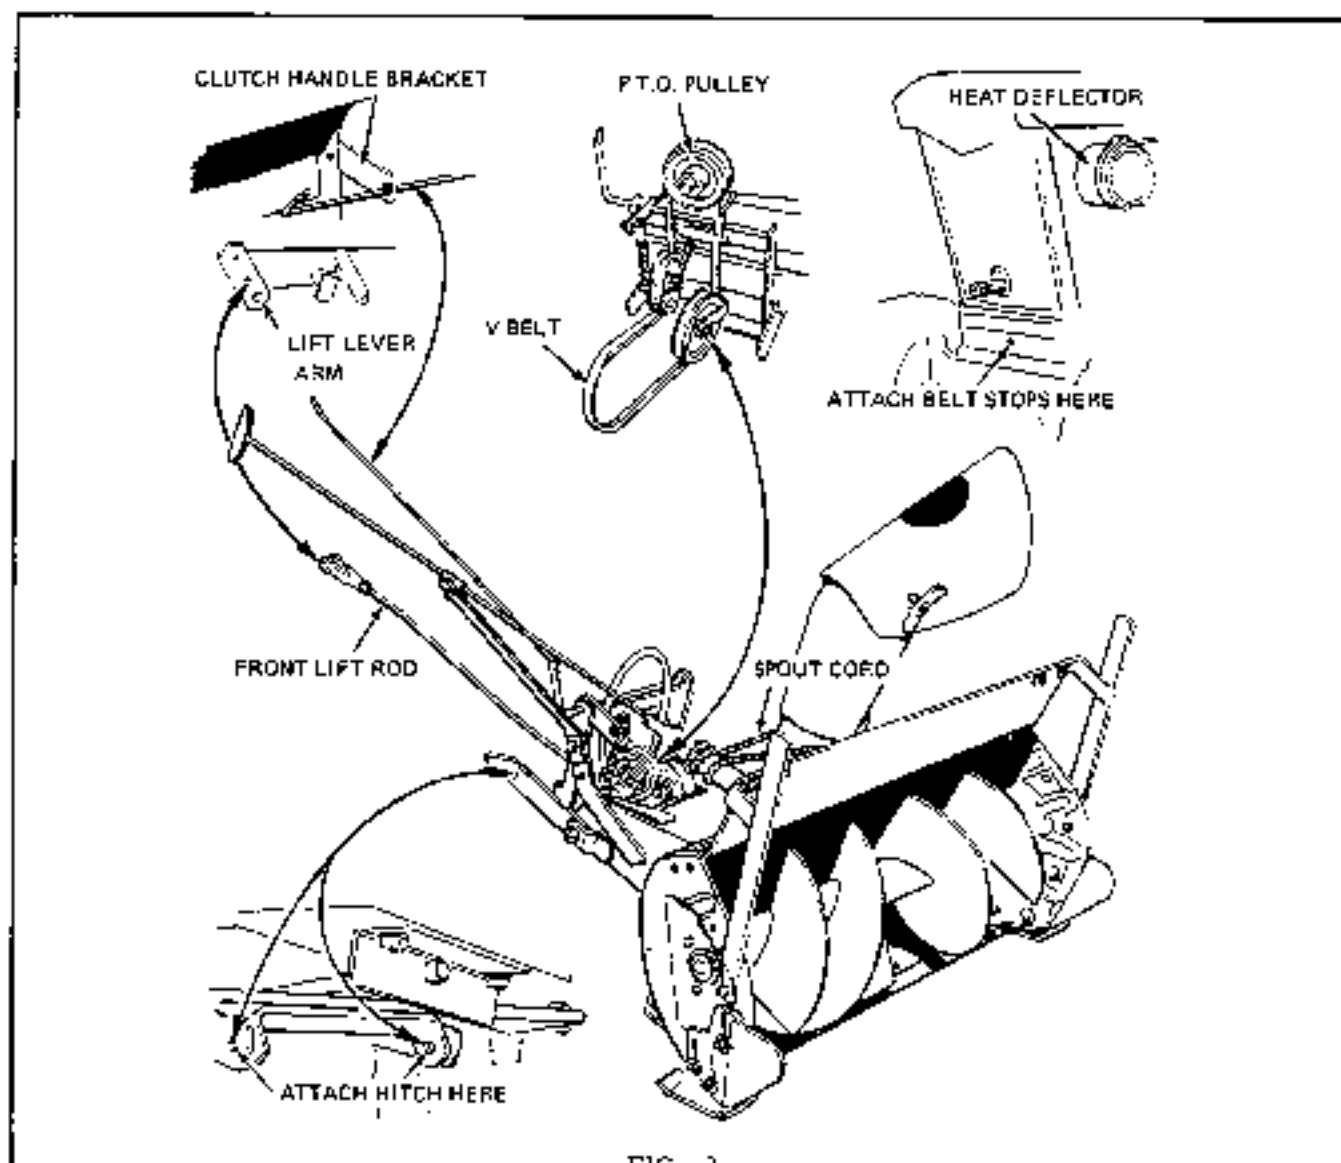

FIG. 2
5. Remove 5/16-18-1/4 long hex capscrew, lock and plain washer from tractor directly below front mounted P. T. O. shaft. Insert through two belt fingers and reassemble. **DO NOT TIGHTEN.** (See Fig. 2).
6. Attach front mounted P. T. O. pulley to shaft. Secure 3/8-24NF setscrew down on key. (See Fig. 2).
7. Attach hitch assembly to tractor with two pins and two spring clips. (See Fig. 2).
8. Place belt around front mounted P. T. O. pulley. (See Fig. 2). The belt should be a minimum of 54-1/4" in length.
13. Position discharge spout directly forward. Position control tube so that cord clamp faces side of spout. Provide two (2) coils of cord on both sides of clamp. Position free ends of cord around spout and clamp securely into position after removing all slack from cord. (See Fig. 2).
14. Remove forward, top capscrew from R. H. side panel. Insert clutch handle bracket between side panel and side member of fuel tank and steering post support assembly. Secure with same capscrew and lockwasher. (Fig. 2)
15. Insert clutch control rod through bracket and attach to clutch pivot and secure in place with spring clip. (See Fig. 2). The addition of plain washers, nylon washers and locknut to the clutch linkage assembly will assure a positive disengagement when the clutch handle is pulled in the disengaged position. The locknut should be set to a torque setting of 4 ft. lbs. It should require
17. The lift lever quadrant on the side of the tractor contains a series of holes and a pin. Place pin in the foremost hole of quadrant and secure in place with hair pin cotter. Release lift lever and place in a forward position. Attach yoke end of front lift rod to lift lever arm using top hole in R. H. side of tractor, with yoke pin and hair pin cotter. Insert lower end of lift rod into lift arm bracket of push bar and secure with hair pin cotter. The lower end of front lift rod is to point away from tractor. (See Fig. 2).
18. Position heat deflector over muffler and adjacent to engine. Flap of deflector to be positioned against air cleaner. Secure with clamp provided. (See Fig. 2).